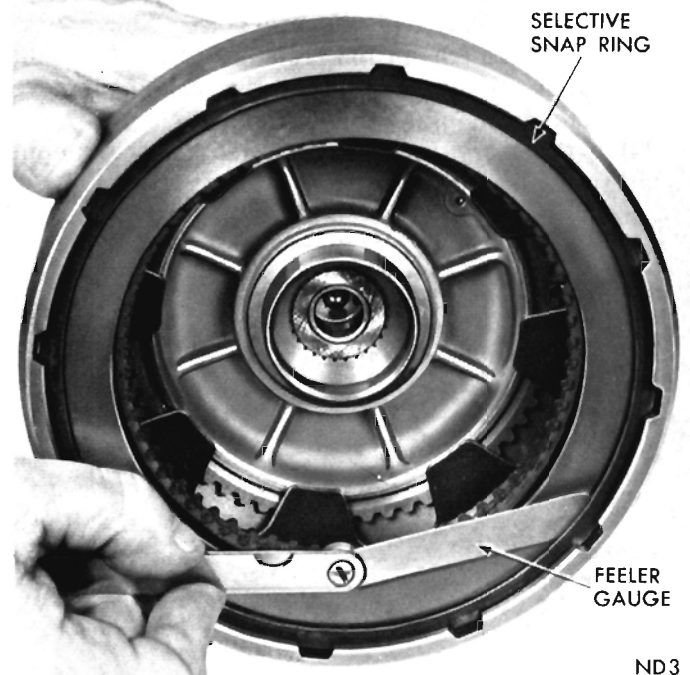

Fig. 80—Measuring Rear Clutch Plate Clearance
- (6) Lubricate all clutch plates, install one lined plate followed by a steel plate until all plates are installed. Install outer pressure plate and selective snap ring. **The A-904 transmission uses two plates and three discs in rear clutch for both six cylinder engines. Three plates and four discs are used in the A-904 transmissions for eight cylinder engines.**
- (7) Measure rear clutch plate clearance by having an assistant press down firmly on outer pressure plate, then insert a feeler gauge between the plate and snap ring (Fig. 80). The clearance should be between .032-.055 inch. If not, install a snap ring of proper thickness to obtain specified clearance. Low limit clearance is desirable. **Rear clutch plate clear-**
and snap ring (Fig. 80). The clearance should be between .025 to .045 inch. If not, install a snap ring of proper thickness to obtain specified clearance. Low limit clearance is desirable. **Rear clutch plate clearance is very important in obtaining proper clutch operation. The clearance can be adjusted by the use of various thickness outer snap rings. Snap rings are available in .060-.062, .074-.076, .088-.090 and .106-.108 inch thickness.**